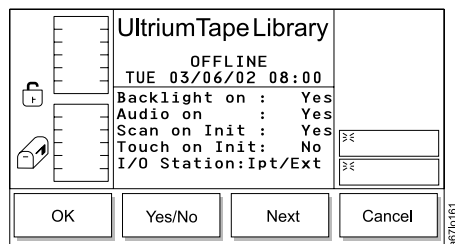

Figure 223. Config Dialog
4. Press the button below the **Config** softkey. The Config Dialog displays (see Figure 223) with the following information: